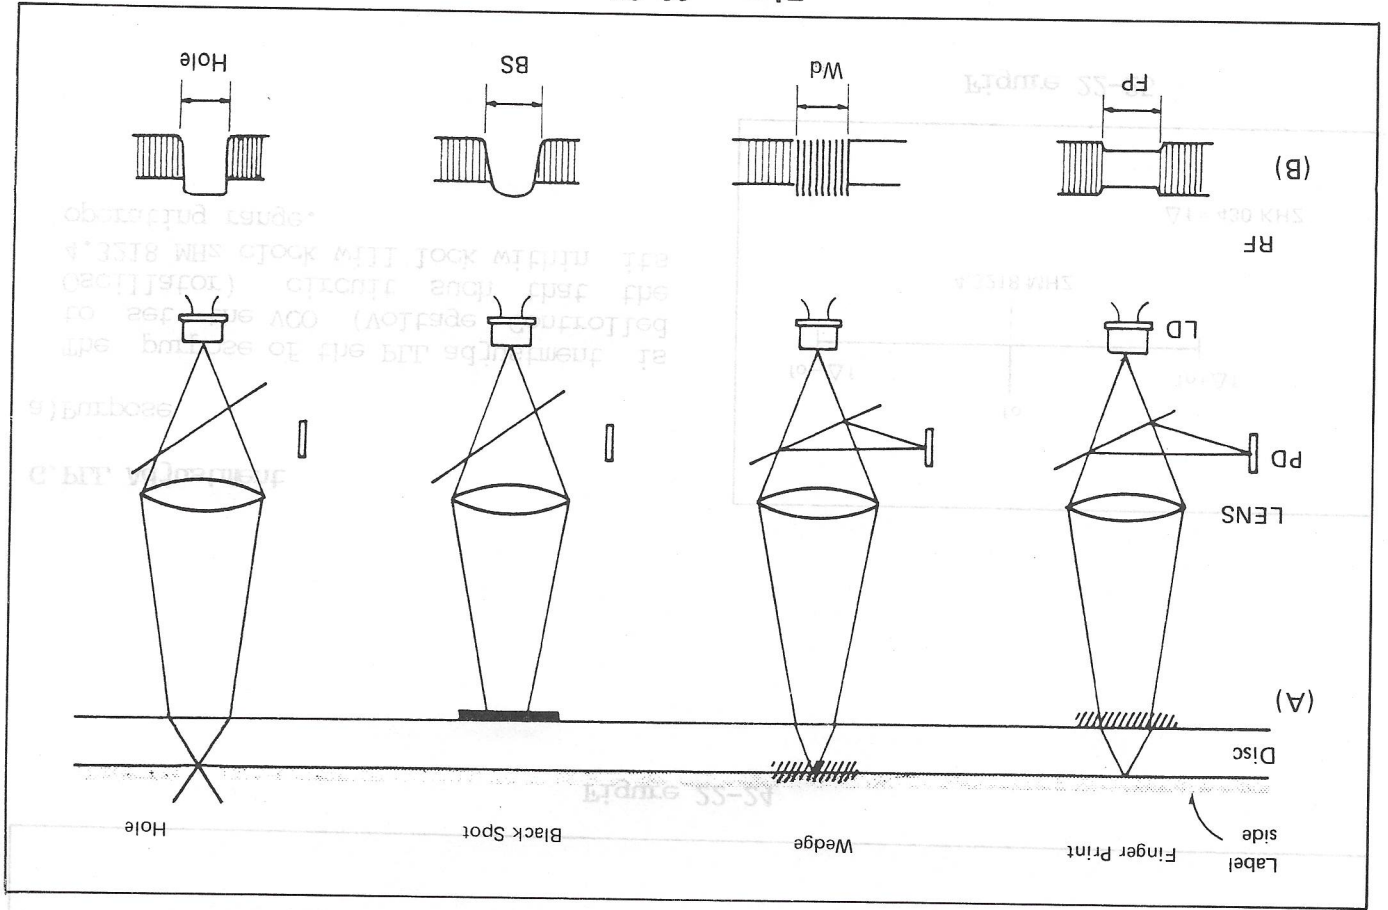

Figure 22-27
Defects related to the disc are shown in figure 22-27 (A). Their respective RF waveform are shown in figure 22-27 (B).